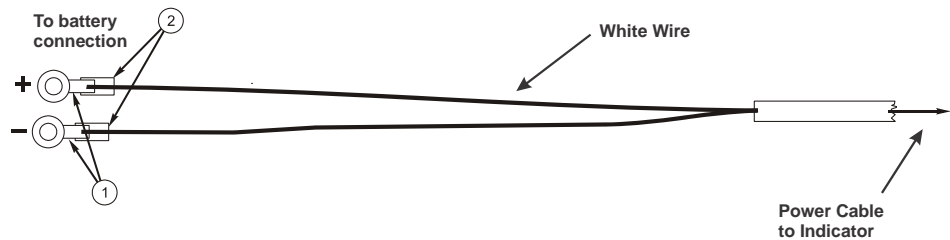

Figure 3.3 Power Cable Wiring
- 5a. Crimp the ring terminals (item 1) onto the wires as shown in Figure 3.3 below.
- 5b. Using a heat gun, shrink all of the heat shrink tubing (item 2) in place.